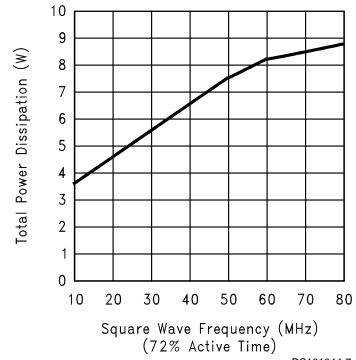

FIGURE 6. Power Dissipation vs Frequency
*Figure 6* shows the maximum power dissipation of the LM2435 vs Frequency when all three channels of the device are driving an 8 pF load with a 40 VP-P alternating one pixel on, one pixel off signal. The graph assumes a 72% active time (device operating at the specified frequency) which is typical in a monitor application. The other 28% of the time the device is assumed to be sitting at the black level (65V in this case). This graph gives the designer the information needed to determine the heat sink requirement for the appli-
The LM2435 case temperature must be maintained below 100°C. If the maximum expected ambient temperature is 70°C and the maximum power dissipation is 8.7W (from *Figure 6*, 72.5 MHz bandwidth) then a maximum heat sink thermal resistance can be calculated: